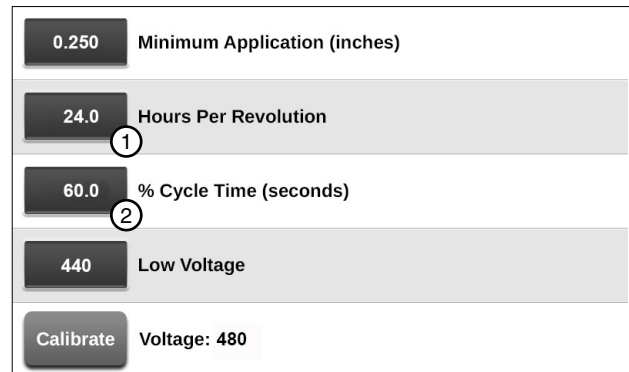

Figure 25-1 System Voltage Screen
The Hours Per Revolution is used to set the number of hours required, at a percent timer setting of 100%, for the machine to make one complete revolution. Refer to Figure 25-1.
To set the hours per revolution refer to Figure 25-1 and follow these steps:
1. Push **Menu**, **Setup**, **Constants** and **System/Voltage** to display the System/Voltage screen. Refer to Figure 25-1.
To set the Percent Timer Cycle Time refer to Figure 25-1 and follow these steps: